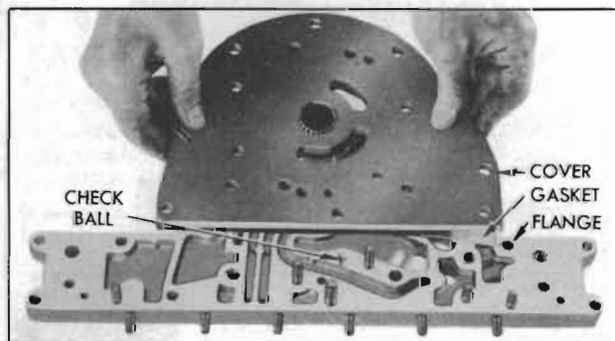

Figure 4-104—Front Oil Pump Cover and Reaction Shaft Flange
4. If the check ball located in clutch feed passage of reaction shaft flange is free to drop out, remove ball to avoid loss in handling parts. Do not remove if securely retained by peened edge of hole. See figure 4-104.
1. Install check ball in clutch feed passage if ball was removed, then install a new gasket and the pump cover on reaction shaft flange. See figure 4-104.